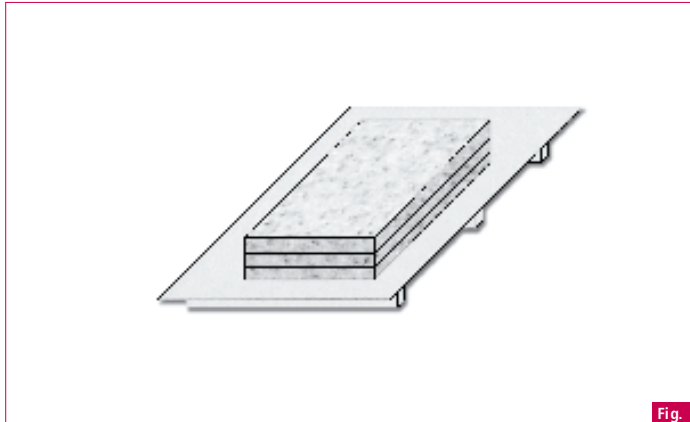

Fig. 1
- 5.1 HI-MACS® should always be stored flat on sturdy pallets with a cover board placed on the pallet before stacking the sheets (Fig. 1).
- 6.3** Prior to cutting full sheets please check for visible defects. Make sure that there is no : Length warp. If the warp is greater than 1.5 mm per metre (Fig.1) contact your HI-MACS® supplier for inspection and product replacement if necessary.